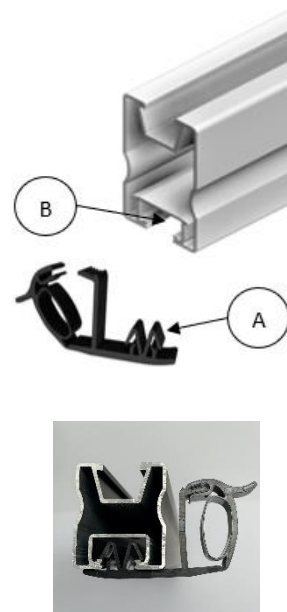

Fig 4.4.4A: Rail cable clip attached to Proline rail
- Position the clip (A) of the rail cable clip underneath the bottom (rectangular) channel (B) of the Proline rails.
- Insert cable clip by pushing firmly into the channel, until it snaps in, as shown in Fig 4.4.4A.